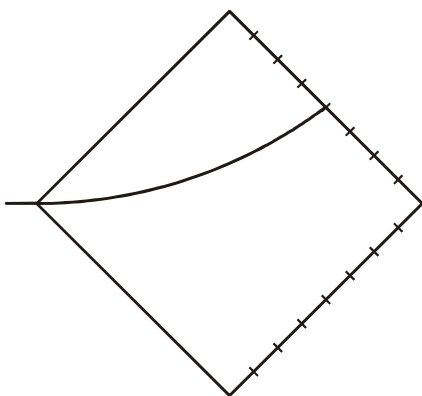

Fig. 3: Deflection of electron beam so that it passes through the centre of the scale at the edge of the screen
- Gradually increase the current through Helmholtz coils ($2 I_H$) until the electron beam passes out through the centre of the scale (see Fig. 3).